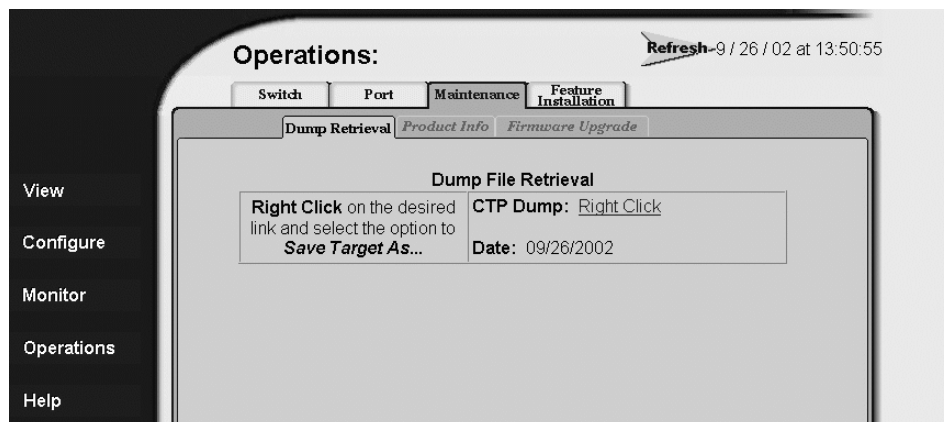

Figure 42: Retrieving the CTP maintenance information
2. Choose the **Maintenance** tab and the **Dump Retrieval** tab; the **Dump Retrieval** tab view displays (Figure 42).